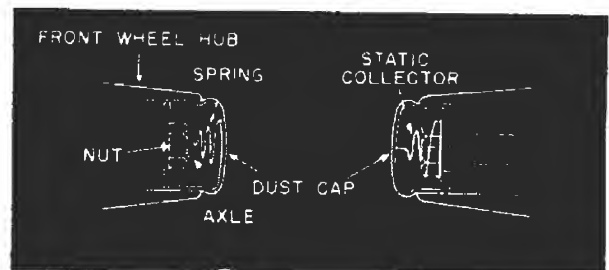

FIG. 29. Wheel static collectors.
► Since wheel static means metal portions of the wheel are insulated from the car body by grease and oil, the obvious solution is to apply some contacting means. Special static collectors, which are installed under the decorative hub caps, are made for this purpose. There are several types, and the recommended type for the particular car wheels should be used. Typical installations are shown in Fig. 29.